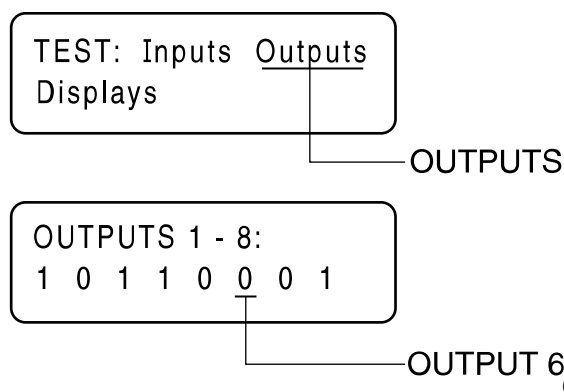

Figure 4-47. The Output Screens
- See Figure 4-47. Digital Output 6 is Wire 56 output from the board.